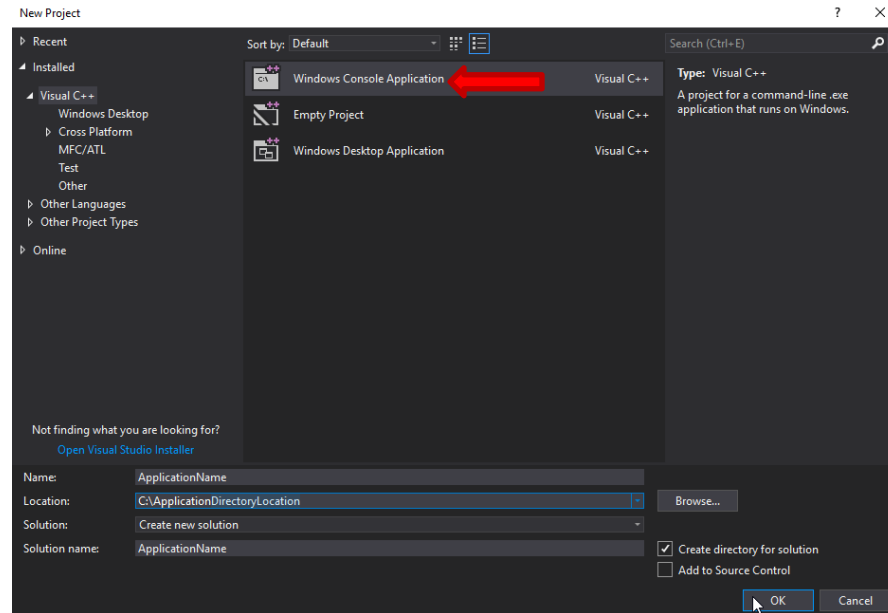

Figure 51 - VS2017 C++ New Project
- 1) Start a new project in Visual Studio 2017, a C/C++ Console App per Figure 51 - VS2017 C++ New Project